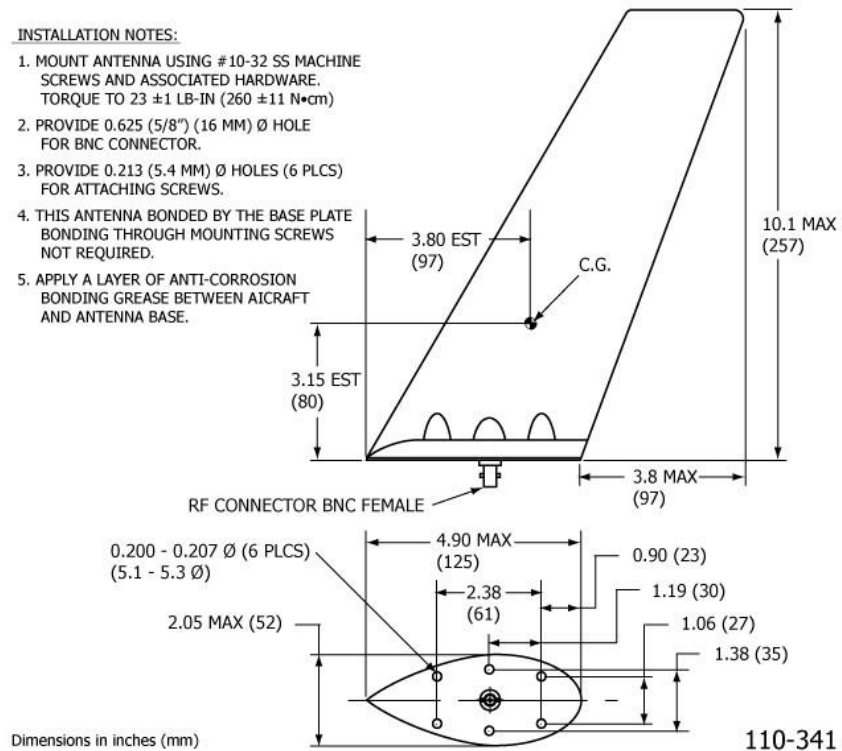

Figure 17 Blade Antennas 110-340 and 110-341 Outlines and Dimensions
- a) See Figure 16 on page 45 and Figure 17 on page 46.